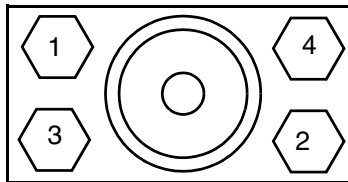

Figure 66. Bonnet Bolt Torquing Sequence
3. Prior to reassembling the dual isolation manifold and all related topworks components, place the adapter plate (K0153BE) on top of the flowtube and bolt using four screws (X0174FD). Torque to 30 lb•ft by tightening in increments of 6.8 N•m (5 lb•ft) using the torque sequence shown in Figure 66.
6. Secure the dual isolation manifold using four bolts. Torque each bolt to 25 lb•ft by tightening in increments of 6.8 N•m (5 lb•ft) using the torque sequence shown in Figure 66.
8. Tighten all bonnet bolts to 2.8 N•m (2 lb•ft) per the sequence shown in Figure 66.